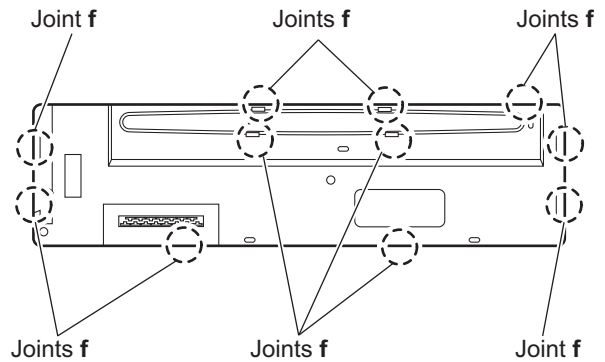

Fig.9
- (1) Remove the four screws **J** on the back side of the front panel assembly. (See Fig.9.)
- (2) Release the eleven joints **f**. (See Fig.9.)